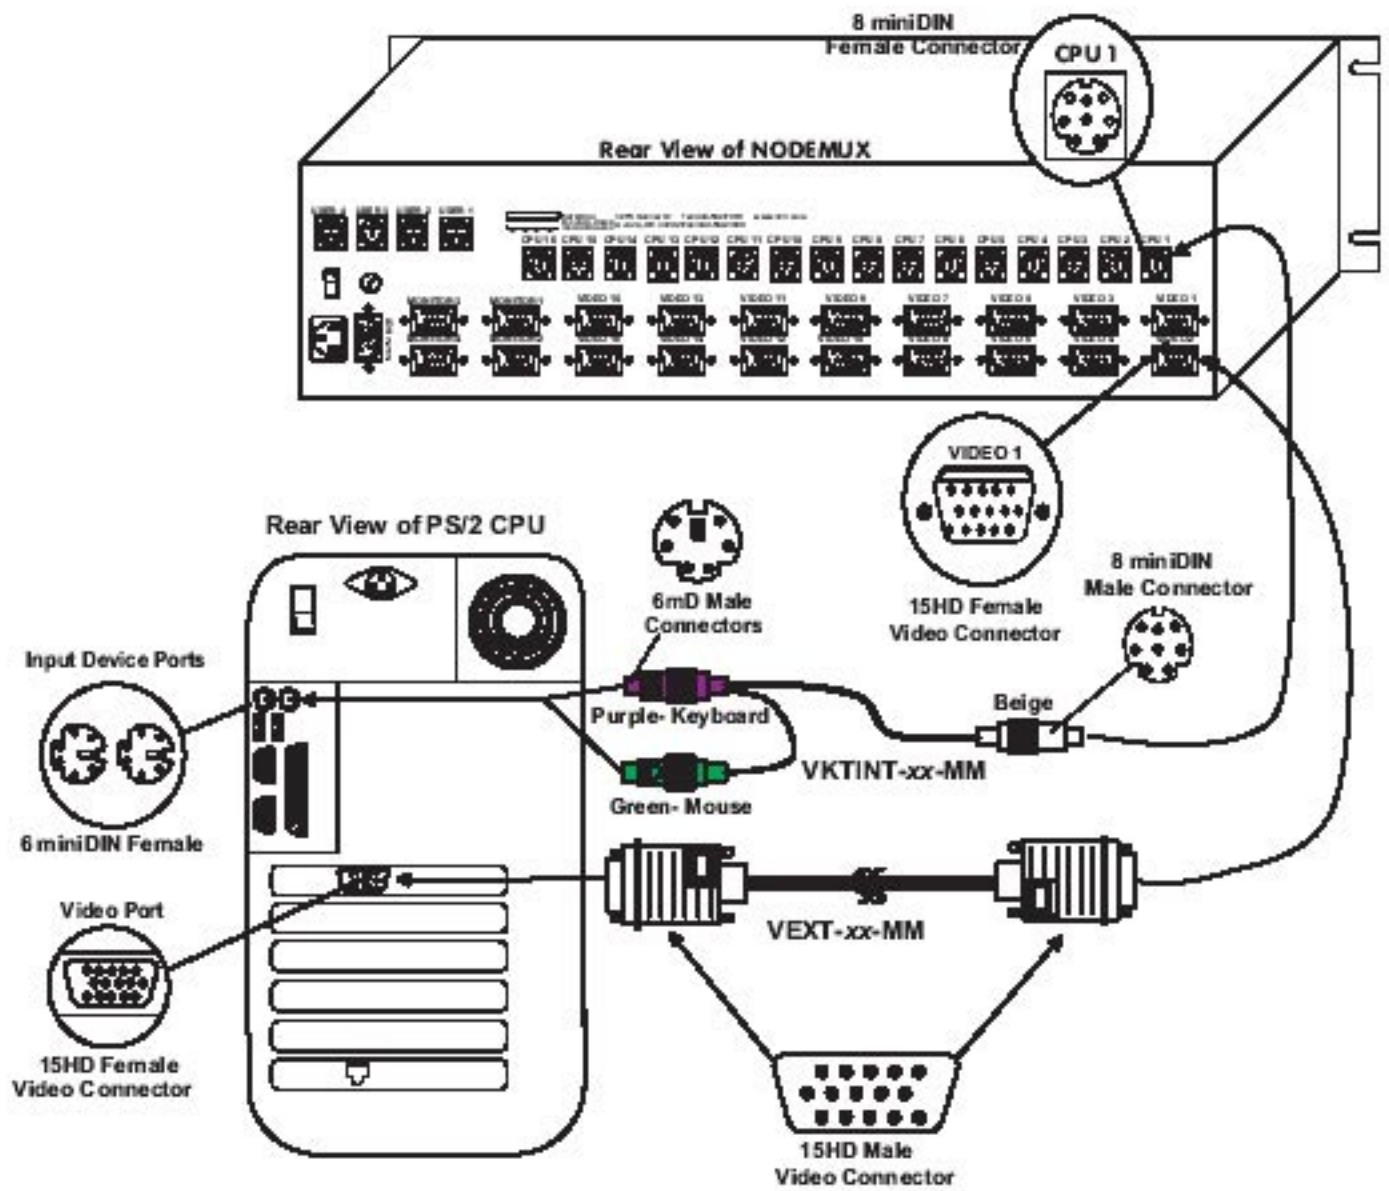

Figure 3- Connect PS/2 CPU to NODEMUX
3. For each CPU: Connect a cable from the Keyboard port of the CPU to a port labeled "CPU x" on the NODEMUX. (See Fig. 3 on page 7 and Cable Selection Guide on page 9.) Note the port's number.